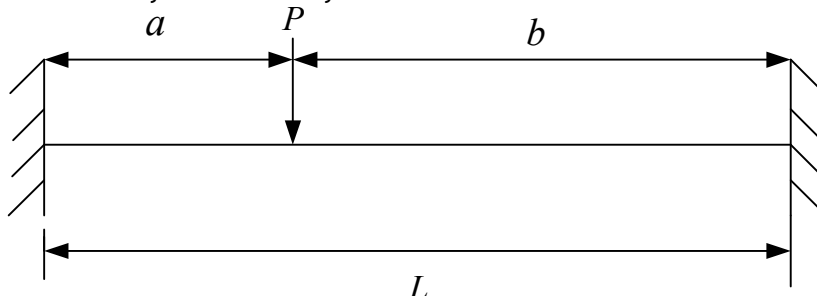

Fig.4. Fixed beam having a point load 'P' at a distance 'a' from the left support
Q.7(c) Find out the deflection and the slope of the fixed end beam at a distance 'a' from the left support where a point load 'P' is applied on the beam as shown in Fig. 4. Also find out the support moments and reactions? Assume any suitable data you need. [6]